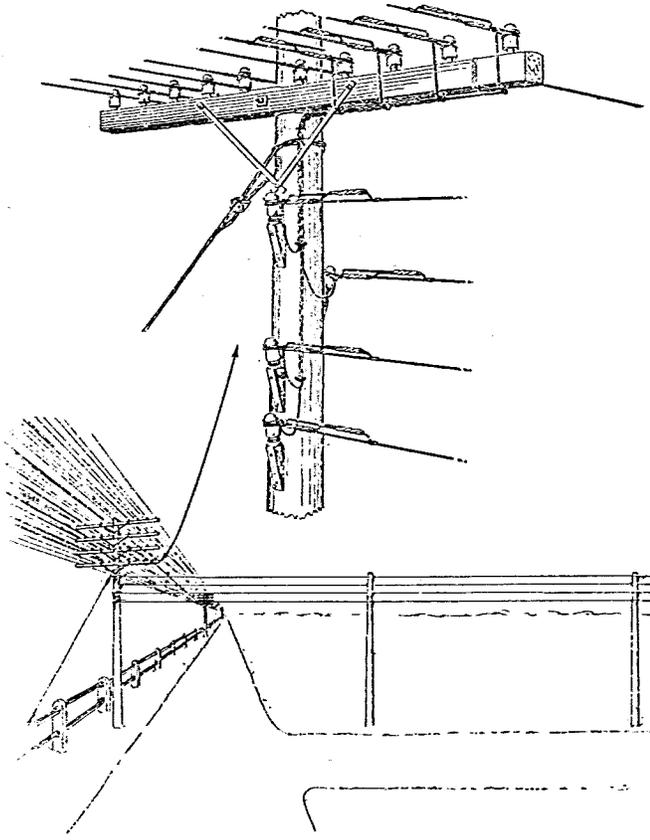

Fig. 7
2.06 Where clearance conditions permit, run bracket lead to main line pole. See Fig. 7.